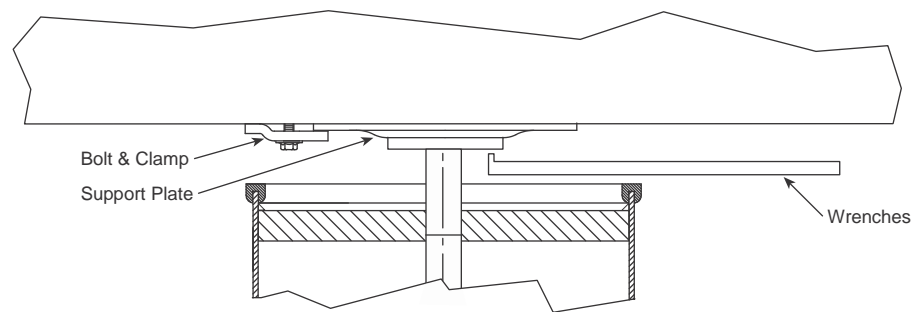

Figure 4 – Level Adjustment of Isolators
- A. Refer to Figure 4. Insert the prongs of the wrench into the holes on the bottom of the support plate. Rotate the plate using the wrench to adjust the height.